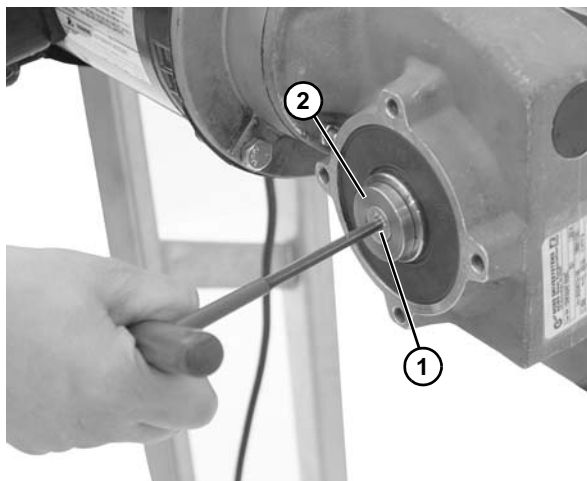

Figure 42
- Remove flat head screw (**Figure 42, item 1**) and clamp washer (**Figure 42, item 2**) from the drive shaft.